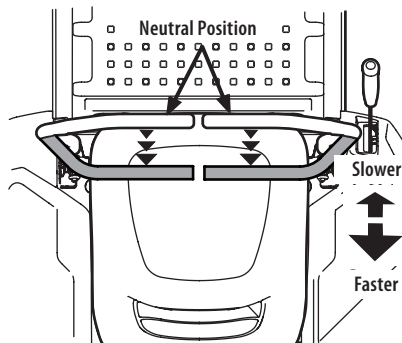

Figure 31
1. Slowly and evenly move both lapbar drive control levers rearward. The tractor will start to move in the reverse direction (Figure 31).